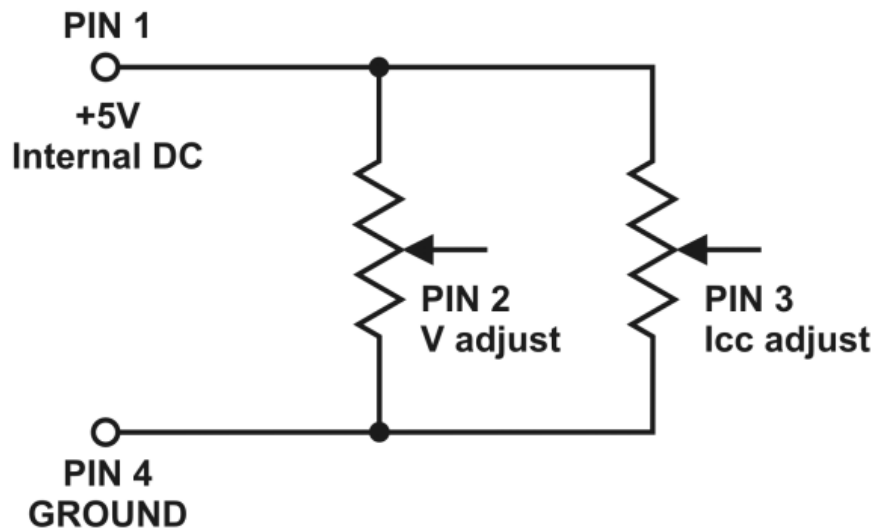

Figure 7 - Variable 5 kΩ Resistors Setup
2. Prepare two 5 kΩ variable resistors and connect wires from pins 1, 2, 3, and 4 as shown in Figure 7.